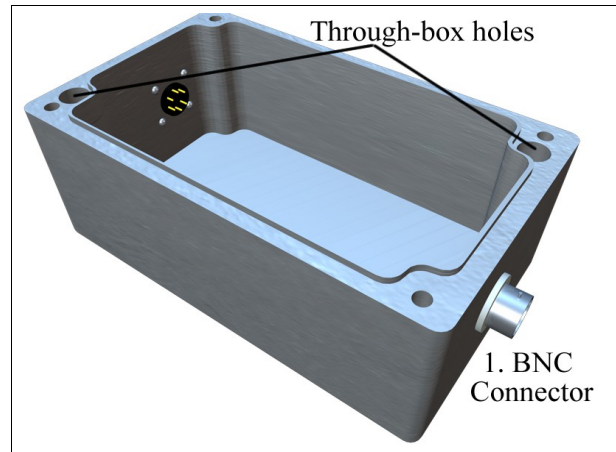

Figure 2-1: Enclosure & BNC Connector
1. A BNC connector (Figure 2-1) is used to attach the wave probe head coax cable to the AWP-24-2 electronics.